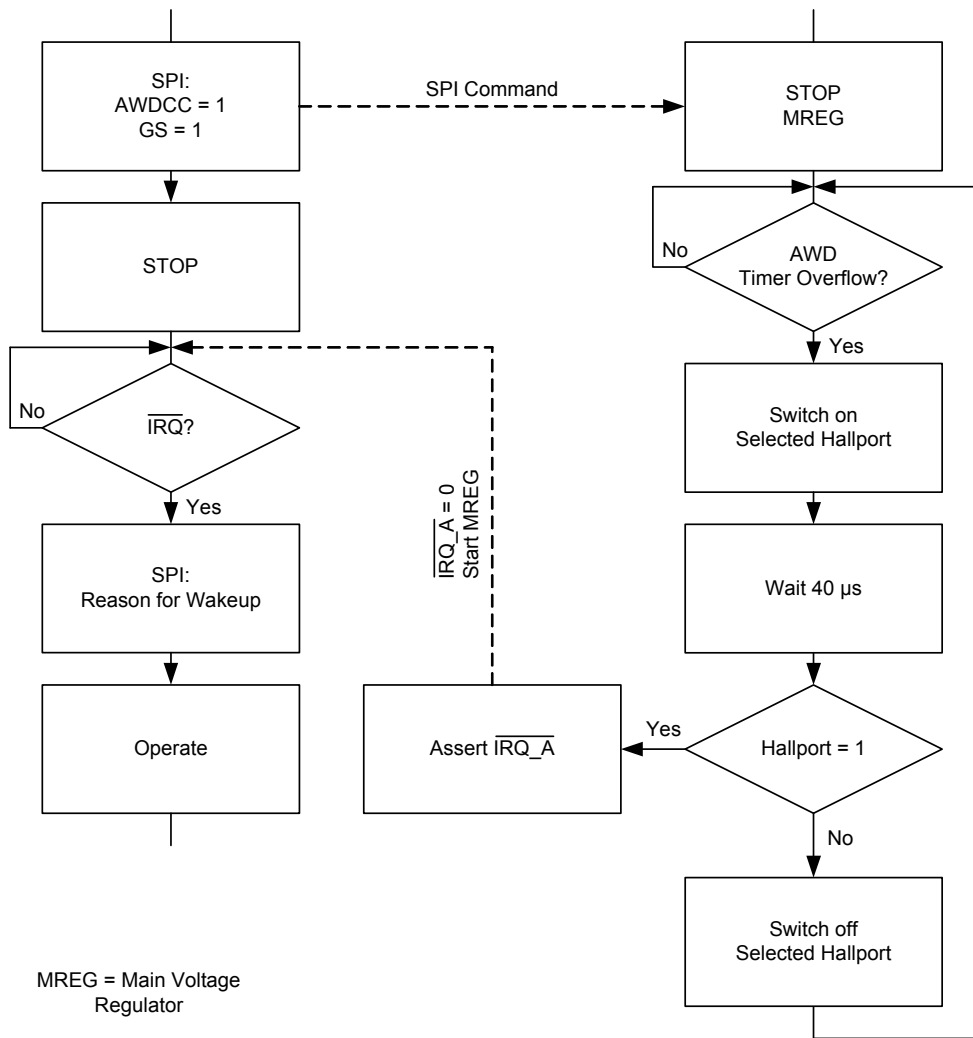

Figure 16. Hall-effect Sensor Input Pin Cyclic Check Wake-up Feature
- The cyclic wake-up of the AWD is enabled (AWDCC = 1); see Figure 16